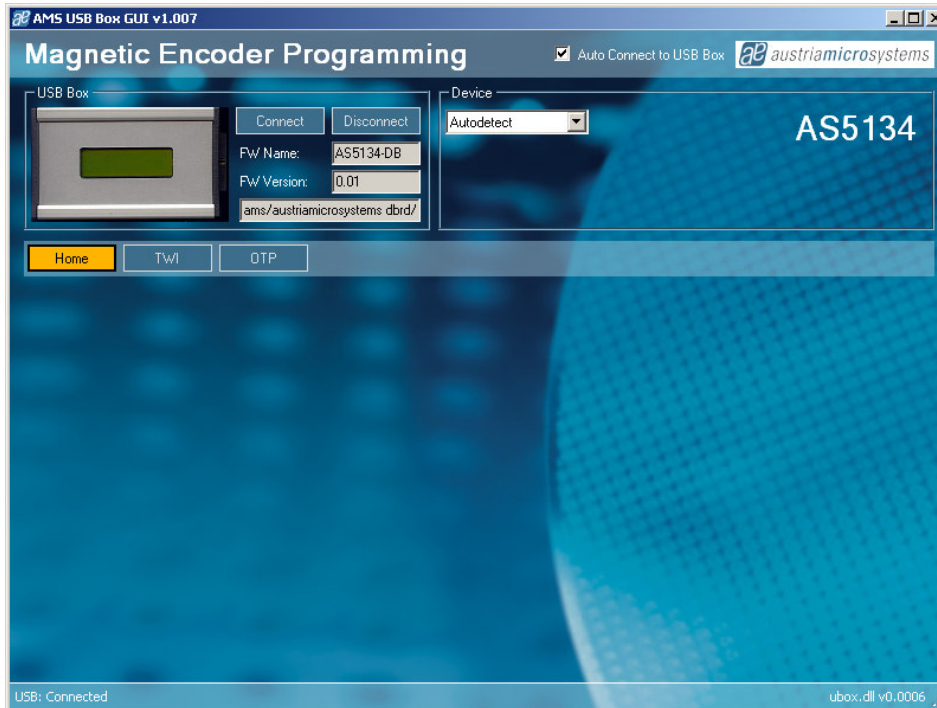

Figure 3: AS5000 GUI detected the AS5134 Demoboard
Figure 3 shows the main window of the GUI. On the top left corner, board informations as firmware (FW) version and demoboard name declaration can be found.